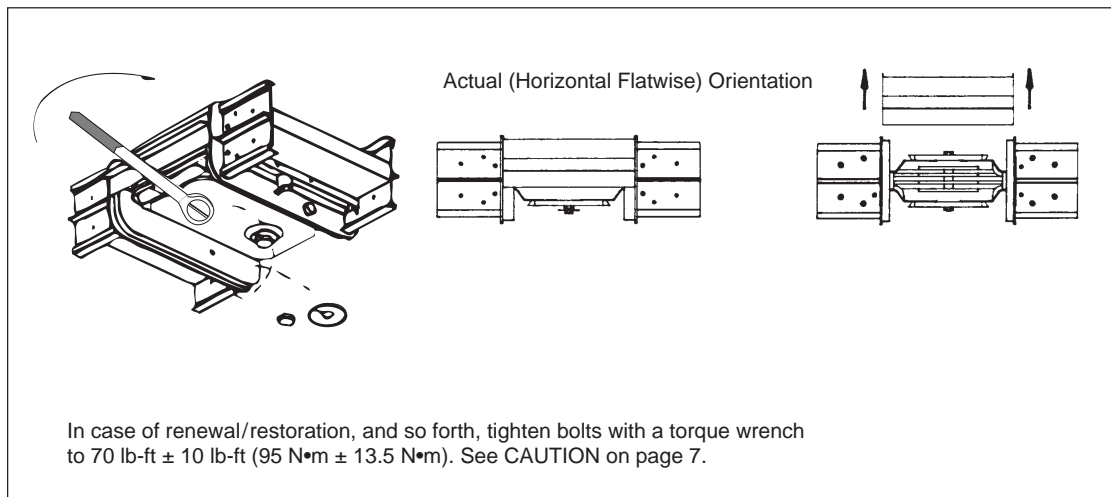

Figure 3
3. Tighten busway joint bolts (figure 3).